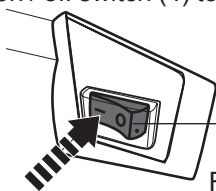

Fig. 5
- > Press the on / off switch (4) to its on position **I** to switch the product on (Fig. 5).